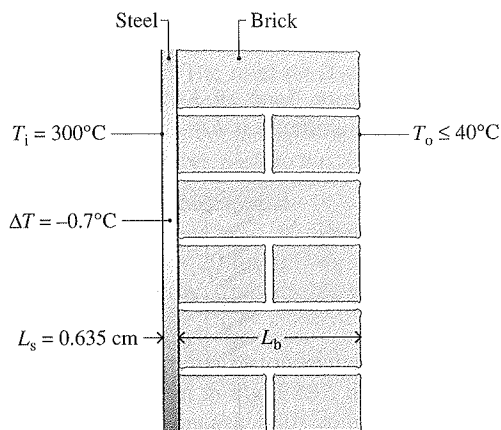

Fig. P2.48
- 2.48 As shown in Fig. P2.48, an oven wall consists of a 0.635-cm -thick layer of steel ($\kappa_s = 15.1 \text{ W/m} \cdot \text{K}$) and a layer of brick ($\kappa_b = 0.72 \text{ W/m} \cdot \text{K}$). At steady state, a temperature decrease of 0.7°C occurs over the steel layer. The inner temperature of the steel layer is 300°C . If the temperature of